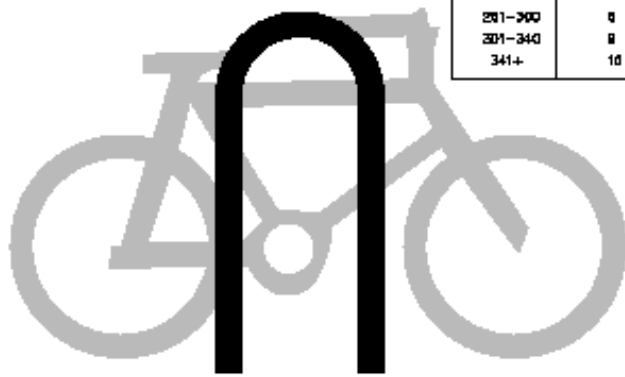

FIGURE 1
5. Bicycle parking racks shall support a bicycle upright in two places. See Figure 1.